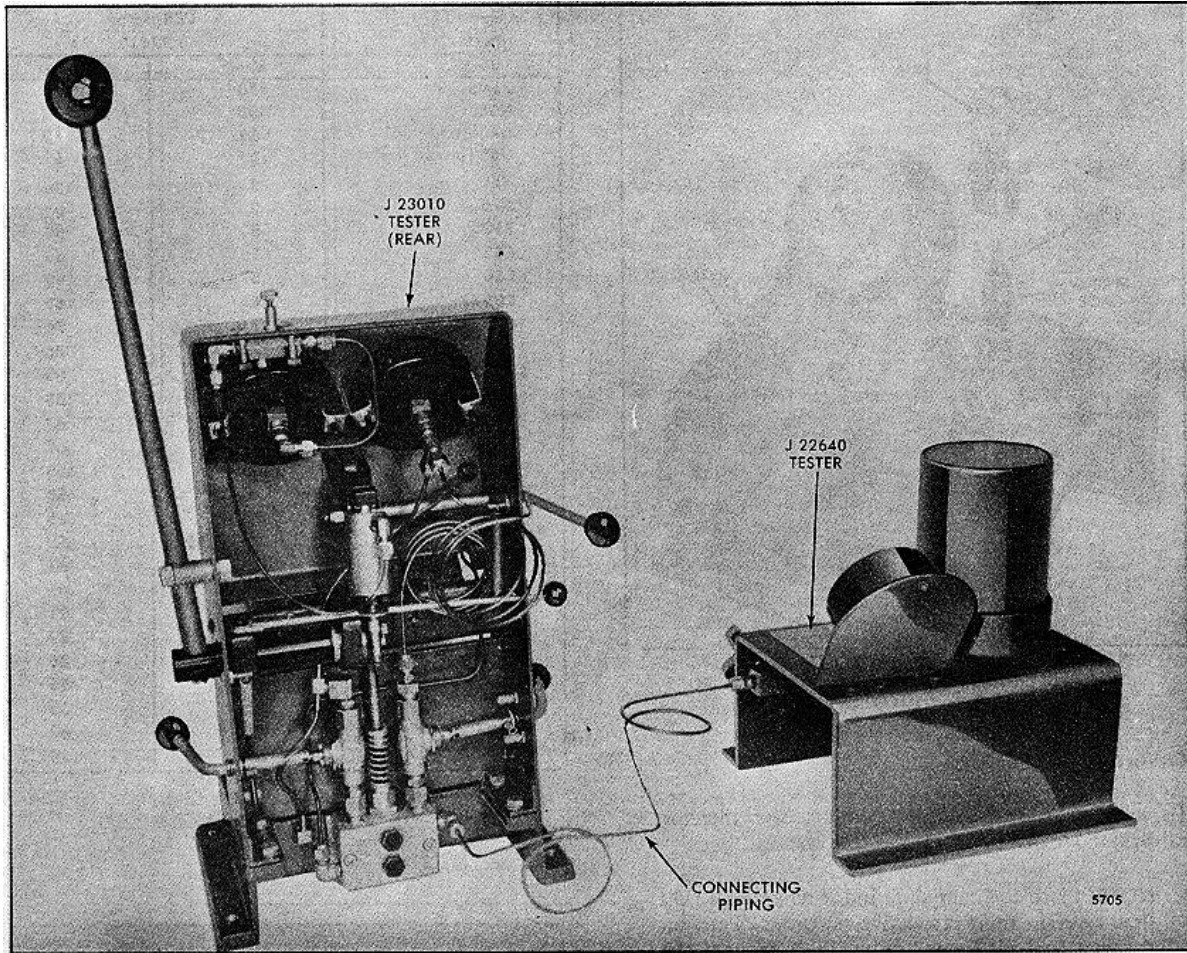

FIG. 17 Injector Needle Valve Tester J 23010 with Auxiliary Tester J 22640
1. Connect the pipe from auxiliary tester J 22640 to the rear of the J 23010 tester at the connection located near the bottom of the tester (Fig.17).